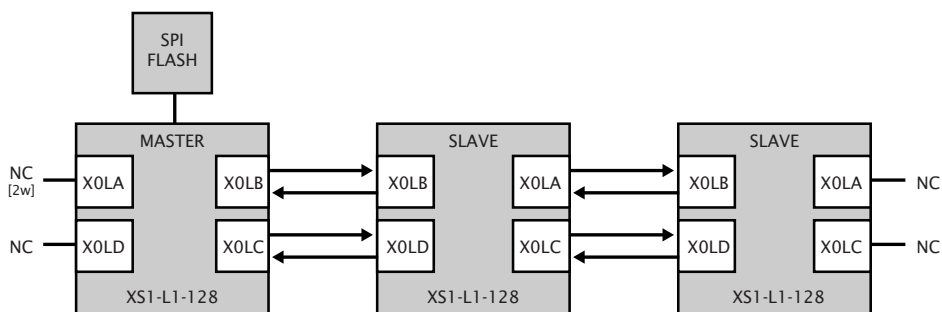
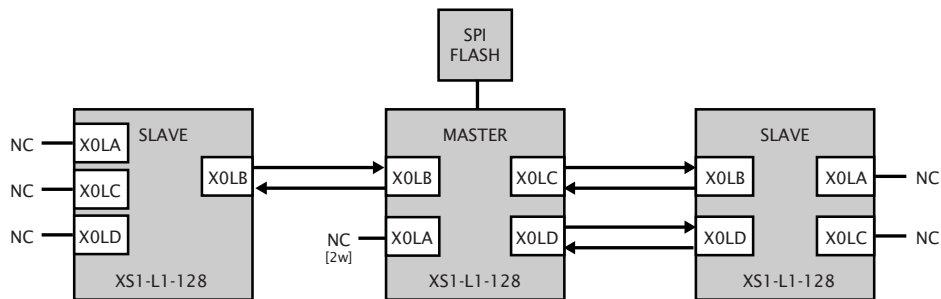

Figure 3: XS1-L1-128TQFP three chip system 1
Figure 4: XS1-L1-128TQFP three chip system 2
Figure 3 and Figure 4 show two possible ways of interconnecting three XS1-L1-128TQFP devices. The devices are connected in a 2D line topology, with the master device at one end or in the centre.
In Figure 3 (the master is located at one end of the line) the slave at the far end is booted by routing the data it needs to boot via the system switch of the middle device. This will be transparent to software running on the middle device, as will subsequent messages between the two devices at the end of the line after the whole system has booted and is operating.
3. Subject to constraints 1 and 2, remaining free XMOS Links on devices in the system may be connected as required but must not be connected so as to form a loop topology. For example, in Figure 3 the device on the right must not be connected back to the master.